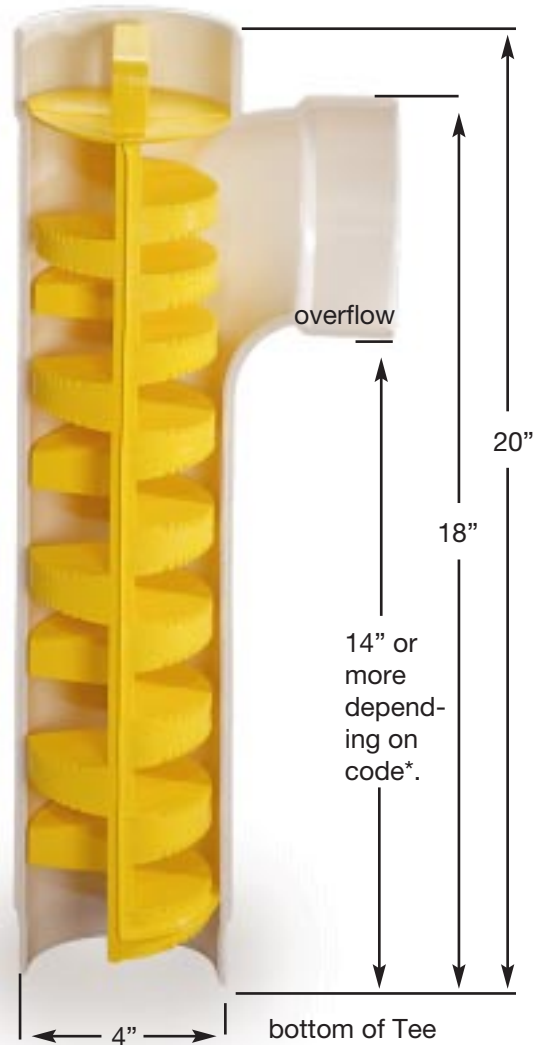

Figure 3:
1. Insert the EF-4 into the Tee Baffle with arrow on the top of the filter pointing toward the outlet pipe (as shown in Figure 1 and Figure 3).